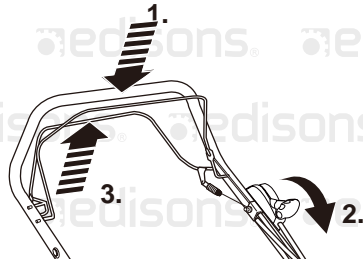

Fig. 15
3. Pull the brake bar **(2)** against the handle **(1)**, hold it in position during operation (Fig. 15, 1.).
4. Move the throttle lever **(4)** downward to the start position (Fig. 15, 2.).
6. Pull the drive bar **(3)** towards the handle **(1)** to use the self-propelled function for assistance if required (Fig. 15, 3.).
2. Pull the brake bar **(2)** against the handle **(1)**, hold it in position during operation (Fig. 15, 1.).
3. Move the throttle lever **(4)** downward to the start position (Fig. 15, 2.).
5. Pull the drive bar **(3)** towards the handle **(1)** to use the self-propelled function for assistance if required (Fig. 15, 3.).